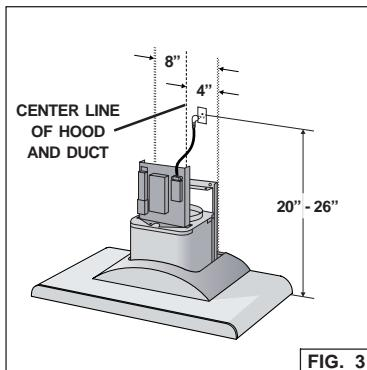

FIG. 3
3. Mount the receptacle 20" to 26" above the bottom of the hood Fig. 3
4. Locate the receptacle within boundary shown and off center of the ductwork (to allow for power cord plug and flue clearance). Fig. 3